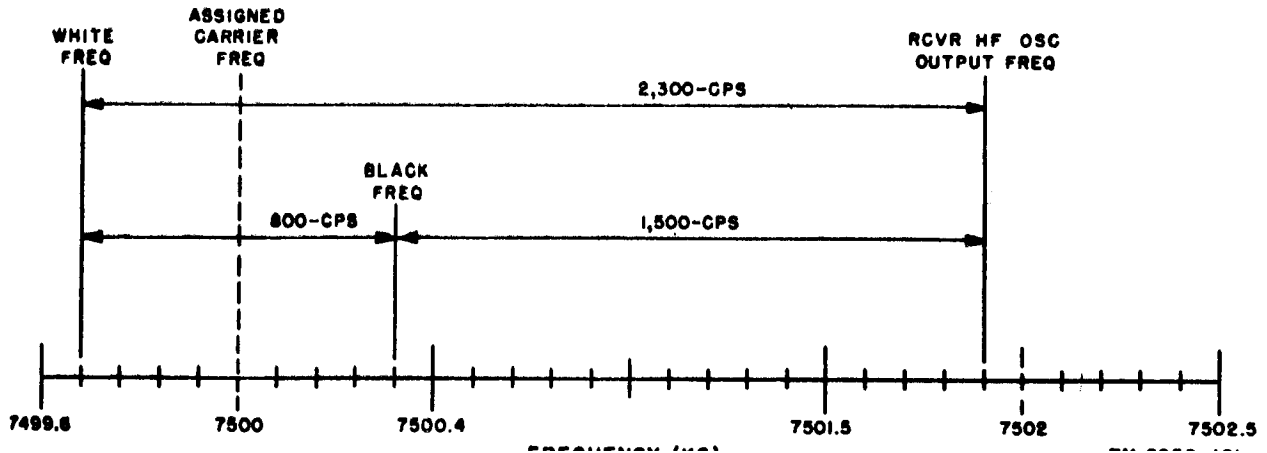

Figure 29. Receiver rf relationships during reception of frequency-shift facsimile transmissions.
Unit O-5B/FR. The output of the exciter unit is a frequency-shift rf signal which shifts above and below a center frequency by an amount proportional to the varying dc signal produced by rectification of the 1,800-cps signal. This serves as the rf excitation for the cw transmitter. The transmitter output is a frequency-shift signal, shifting a total of 800 cycles between picture white and picture black; 400 cycles above and 400 cycles below the assigned carrier frequency (a total of 1,200 cps, ± 600 cycles under the old shift limits) (fig. 29). Frequency-shift transmissions are advantageous because they are affected less by fading and interference than transmissions using conventional am and, in addition, the rf channel width required is less than when using am SCFM.
b. Receiving. When receiving frequency-shift facsimile signals, a conventional communication receiver that has a crystal-controlled temperature compensated hf oscillator and a stabilized beat-frequency oscillator should be used. Radio Receiver R-390/URR or Radio Receivers BC-779, BC-794, and BC-1004 modified in accordance with MWO SIG 11-866-4, Modification of Radio Receivers BC-779-(*), BC-794-(*), and BC-1004-(*), to provide for improved stability of the high frequency oscillator circuit, are suitable in this application. However, a conventional receiver may be used to pick up the frequency-shift radio signal with a stable rf signal applied to its input from Frequency Meter BC-221. Therefore, the beat-frequency oscillator will not be required. In both methods, the incoming signal is heterodyned with the local oscillator signal to produce an output in the af range swinging from 1,500 to 2,300 cps or from 1,800 to 3,000 cps, depending on which shift limit is used (fig. 29). These fm voice-frequency signals are applied to the input of Converter CV-2C/TX which converts them into am af signals which are fed into the input of the receiving facsimile transceiver.
c. Receiving (fig. 29). The receiving station must be adjusted so that the highest received frequency is interpreted as a maximum amplitude signal at the receiving facsimile transceiver, and the lowest received frequency is interpreted as a minimum amplitude signal at the receiving facsimile transceiver. To obtain this desired relationship, the output of the receiver hf oscillator must be on the hf side of the received rf signal. This will produce an af beat note (2,300 cps) at the receiver output when the received rf signal is at its lowest frequency, and a low-frequency beat note (1,500 cps) at the output of the receiver when the received rf signal is at its highest frequency. The received carrier frequencies are the same as those assumed for the transmitting station, and